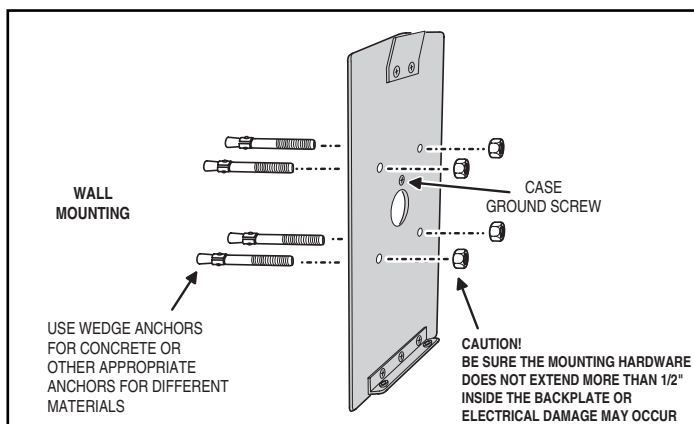

Figure 3. Wall Mounting Backplate
2. Use the appropriate fasteners to secure the system's backplate to the mounting surface. When mounting the system to a concrete wall, use concrete wedge anchors (see Figure 3).